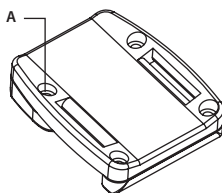

FIGURE 4-1. ADVANCED WIRELESS REMOTE CONTROL BATTERY INSTALLATION
1. Using a screwdriver, unscrew the four screws (A, Figure 4-1) that secure the cover to the bottom of the unit. Remove the cover.